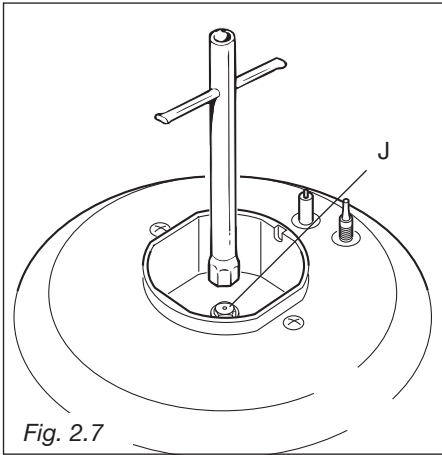

Fig. 2.7
- ✓ Using a wrench substitute the nozzle injectors "J" (figs. 2.7 - 2.8) with those most suitable for the kind of gas for which it is to be used.